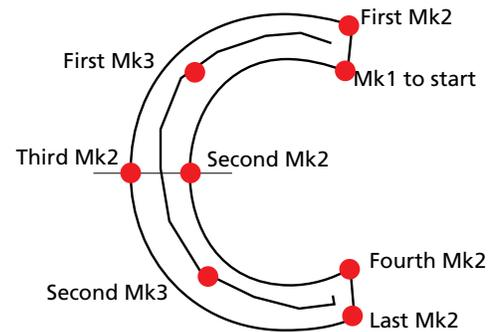

Figure 5-24
1. Go to the start of the inside line of the top of the letter **c** and enter the Mk1 to start (see Figure 5-24).
2. Enter the first Mk2 at the start of the outside line of the top of the letter (see Figure 5-24).
3. We plotted the letter into two arc segments since the circumference of the letter c is more than 180 degrees rotation. For uniformity the segments are equal. Enter the first Mk3 (for the first column segment) in the middle of the first segment, half way from the top end to the center of the letter (see Figure 5-24).
4. Enter the second Mk2 to define the end of the inside line of the column at the midpoint of the letter (see Figure 5-24).
5. Enter the third Mk2 to define the end of the outside line of the column at the midpoint of the letter (see Figure 5-24).
6. Enter the second Mk3 (for the second column segment) in the middle of the segment, half way from the center of the letter to the bottom end of the letter c (see Figure 5-24).
8. Finish the column with a Mk2 at the end of the outside line of the arc (see Figure 5-24).